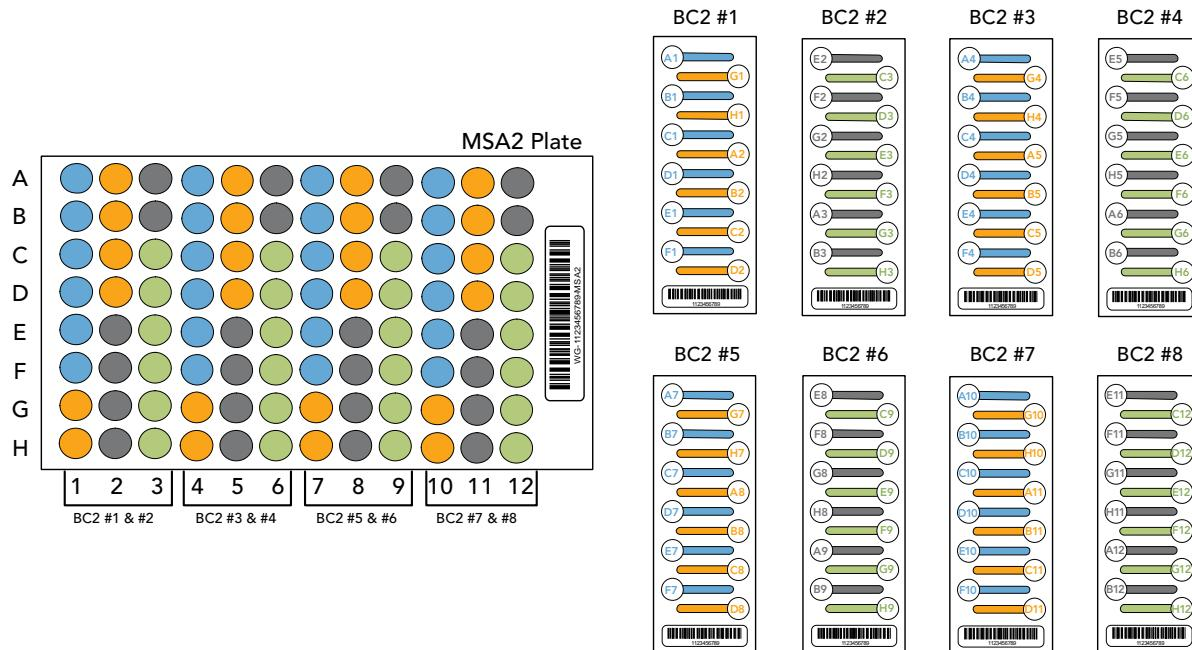

Figure 39 Distributing Sample in MSA2 Plate
on the lab tracking worksheet (repeated in Figure 39) and the following illustrations:
d. Continue in this manner, following the color-coded sections shown in Figure 39, until all samples are loaded.